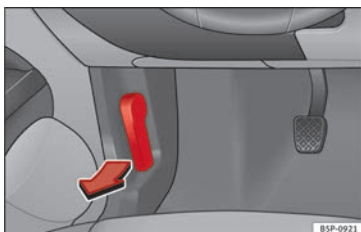

Fig. 144 Detail of footwell area on driver side: lever for unlocking the bonnet
- To release the bonnet, pull the lever under the dash panel » **Fig. 144** in the direction indicated (arrow). The bonnet will be released by a spring action » **⚠**.